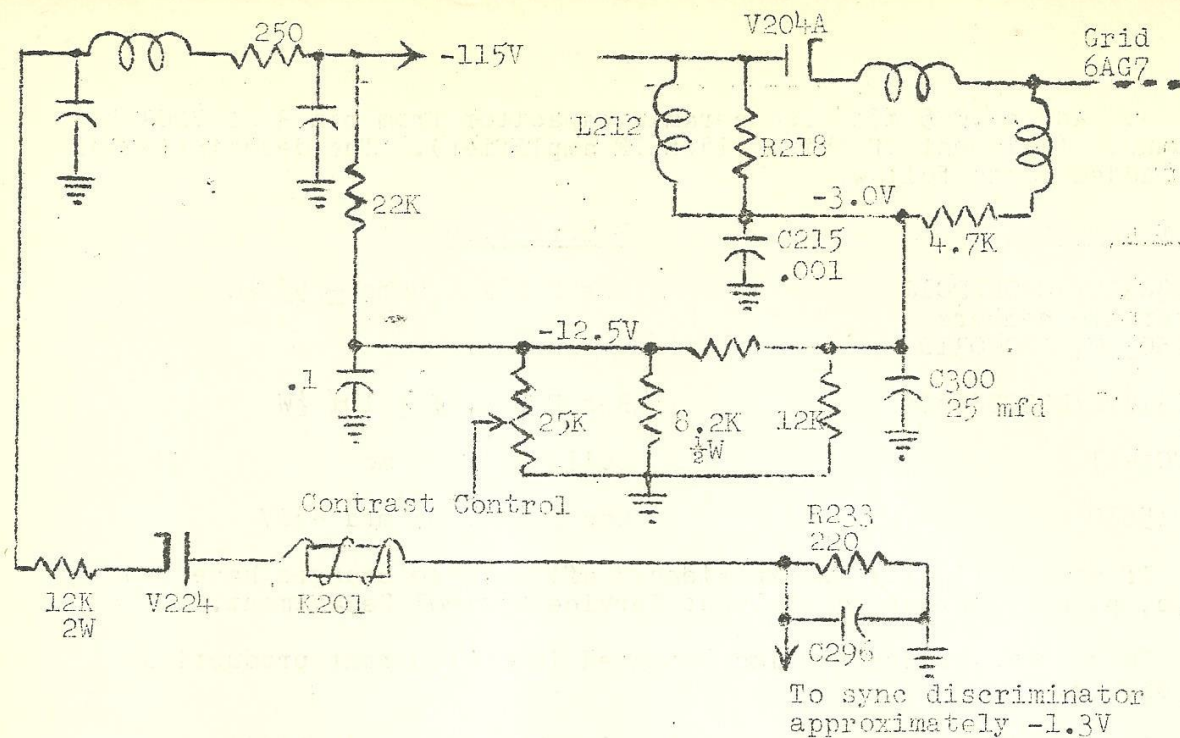
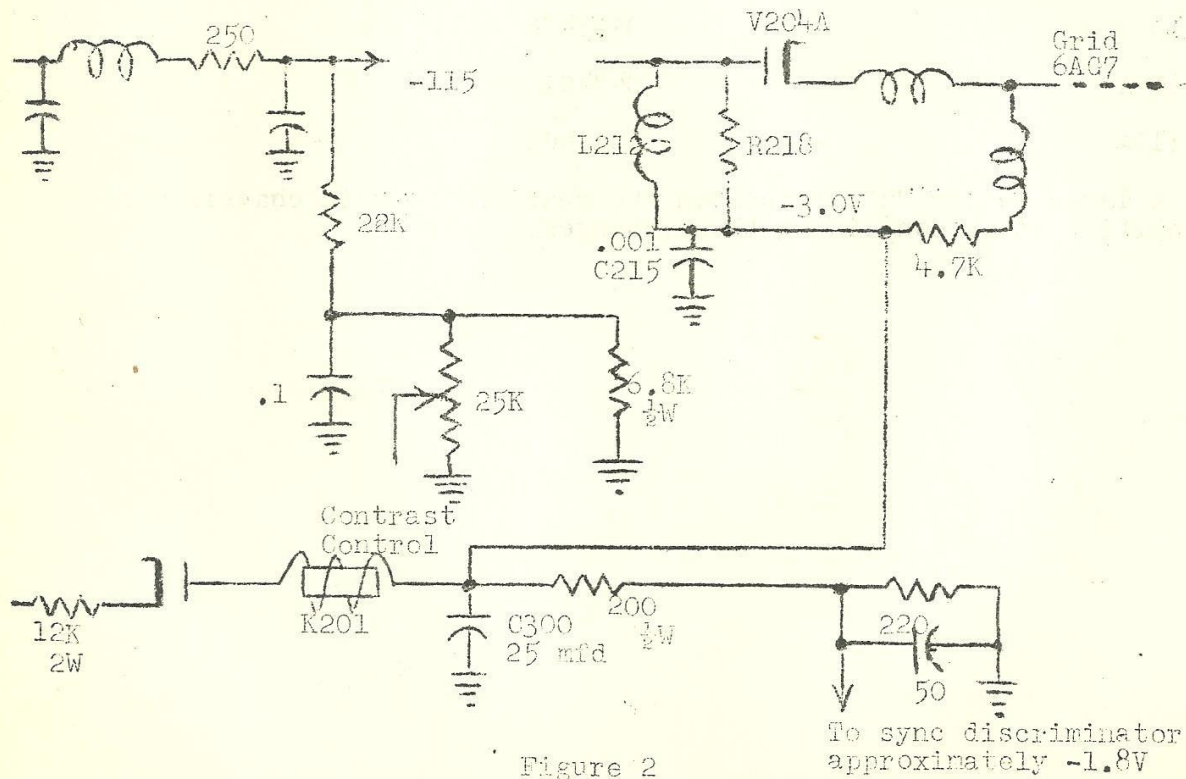

Figure 1
Figure 2
2. Change the bias circuit of the video amplifier V205, from that shown in Fig. 1 to the circuit shown in Fig. 2. In the existing circuit, the bias voltage for the mixer and the video amplifier are taken from the same point. The new bias circuit applies bias to the video amplifier from a different point. The only changes involved follow:
To eliminate this problem, several changes are to be made in the video IF strip and one change in the video amplifier. See Figure 1 for a simplified schematic. Those items affected are indicated by an encircled numeral. The numeral refers to the step to be made in the following procedure.
6. Add a 22K $\frac{1}{2}$ watt 10% resistor across C217 and L216. (This is the 4.5 mc trap). Identify it as R351. (not shown in Fig.1)
Figure 1. Simplified schematic showing changes necessary to reduce regeneration on all channels and improve picture quality. The only items affected are indicated by an encircled numeral. See page 13d for detailed instructions. There are no wiring changes, only additions and deletions of certain components and changes in value of certain other components.
To correct this condition, it has been found that placing the antenna lead to the tuner as shown on Figure 1 below, is very effective. Another remedy is to ground the antenna lead one-half way back from the tuner to the antenna terminal on rear of chassis.